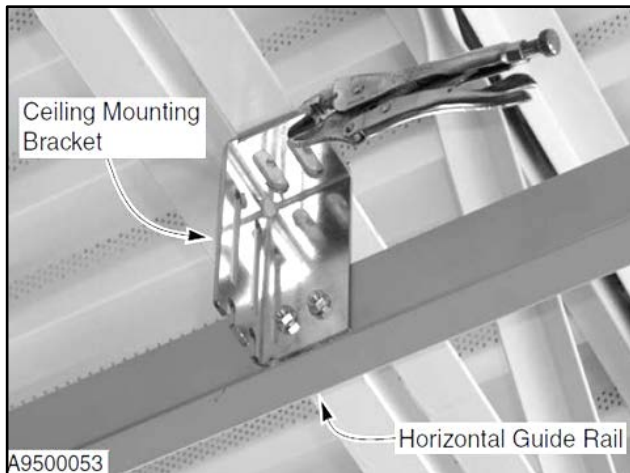

Figure 54
8. Install adequate ceiling mounting brackets to the horizontal track assembly. Must be provided by others. The tracks must be level & true with the rest of the track assembly. (See Figure 54)